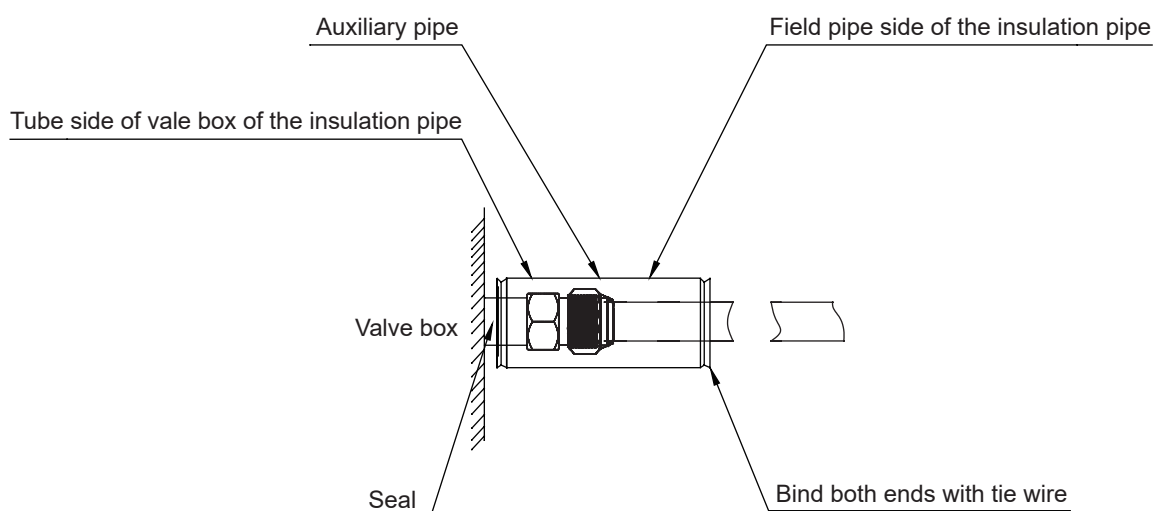

Fig.18
- (1) Please connect it tightly so as to ensure no gas leakage at both ends.
- (2) The retaining clamp shall not be over tight so as to ensure the thickness of the insulation materials.
- (3) Joints of insulation materials (purchased locally) for the upper flare nut connections shall be wrapped upwards.
- (4) Ensure that joints of the insulation materials are installed upwards. (See Fig.18.)